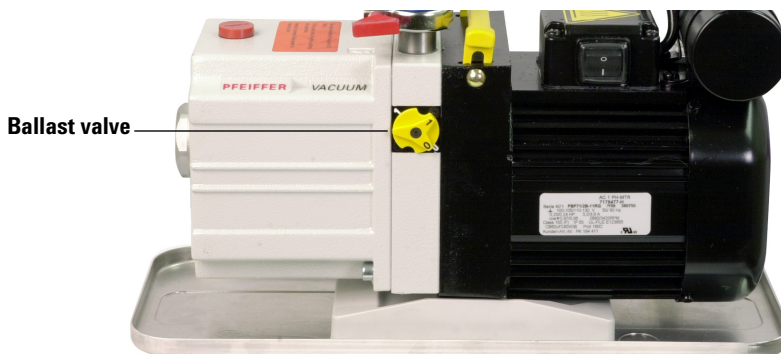

Figure 26 Minimizing ammonia damage
- 1 Turn the ballast valve on the foreline pump (Figure 26) until the 1s are aligned. The sound of the pump will get much louder.